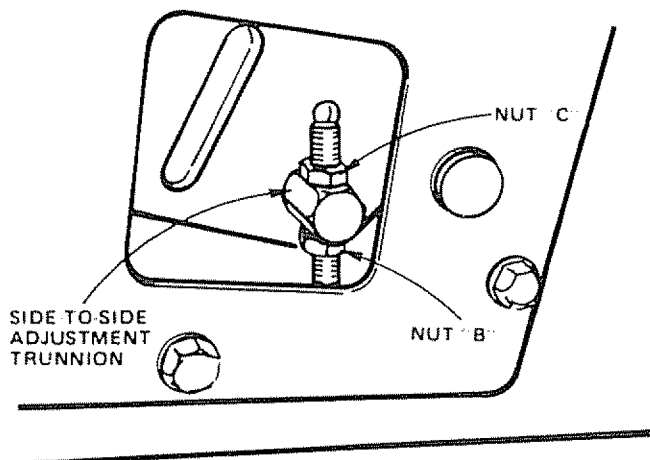

FIGURE 31
- If distance "A" needs to be changed, snap out access hole cover on L.H. side above footrest. Use 9/16" wrench on nuts "B" and "C" at side-to-side adjustment trunnion (Fig. 31).